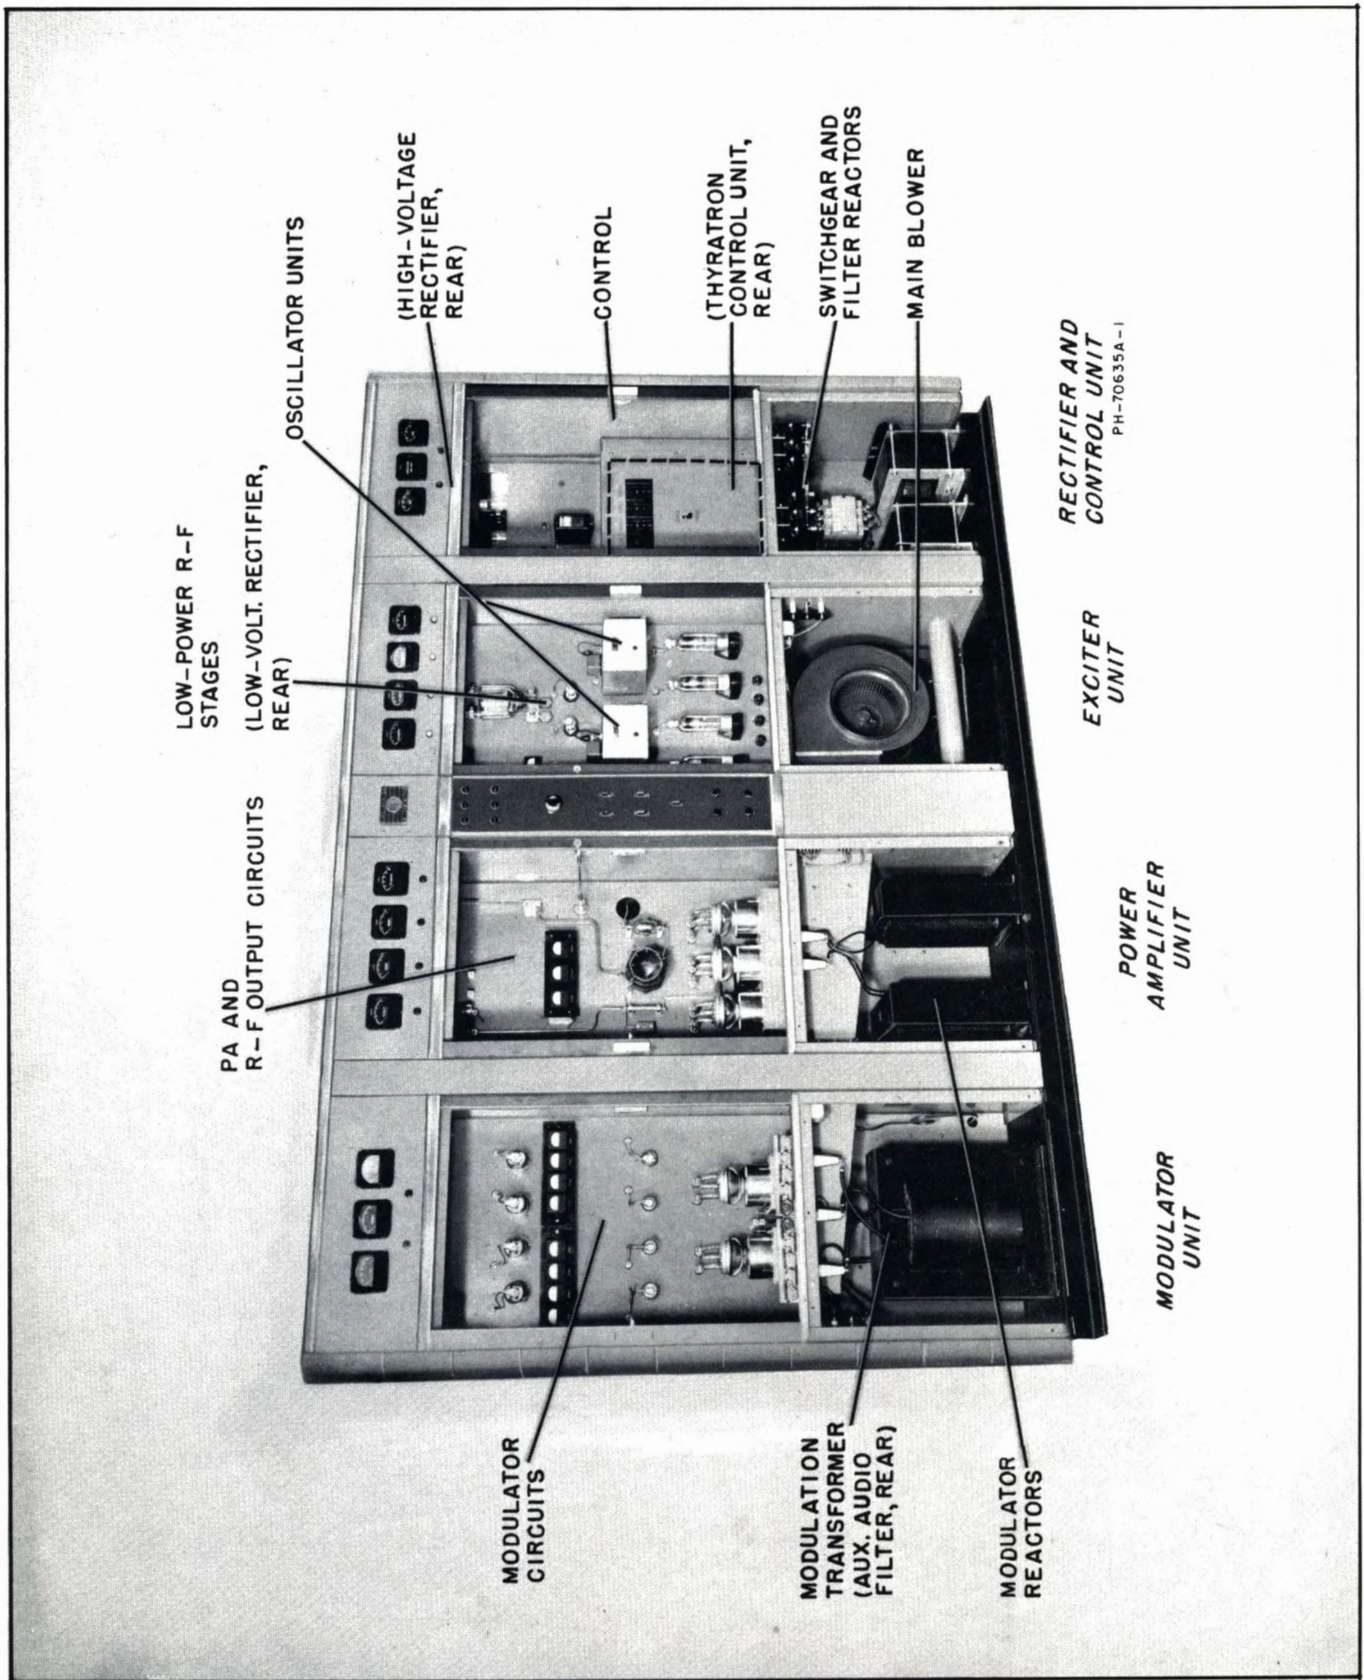

Figure 2. Unit and Chassis Locations, Front View
Each circuit component in the BTA-5G/10G transmitters carries a symbol prefix number which designates the chassis or cabinet in which it is located. Table 1 lists the transmitter items; Figure 2 shows the chassis locations.
Utilizing Tables 1 and 2 and Figure 2, an item with the symbol 2R8 would be in the power amplifier (2) and would be a resistor (R). The "8" refers to the particular item bearing this number. This system is maintained throughout all drawings, parts lists, instruction book text, and for the markings inside the transmitter.